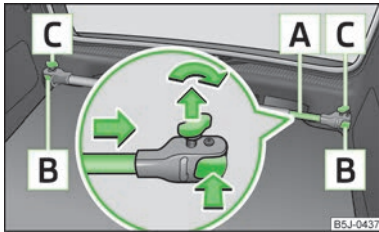

Fig. 53
- > Undo the securing screws **[C]** » Fig. 53 and remove a little to unlock the holders **[B]**.